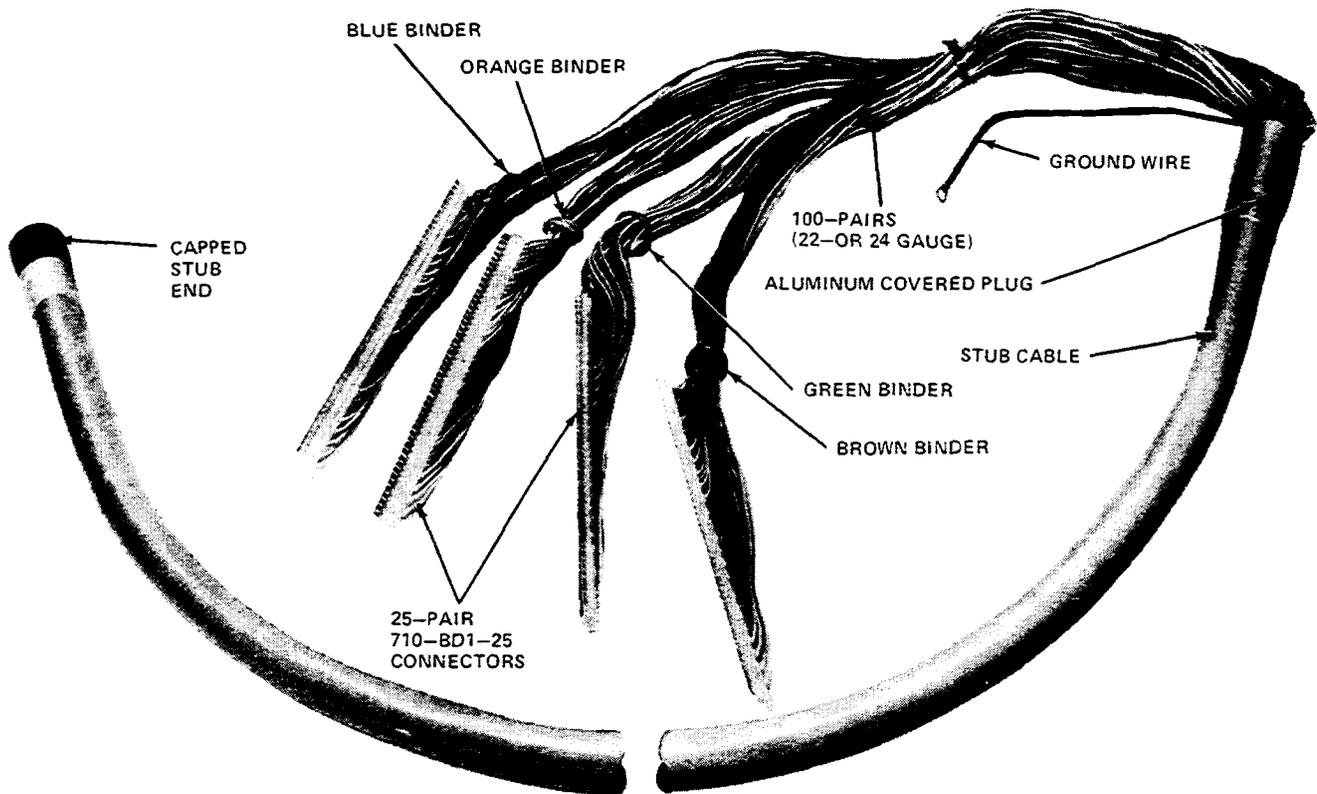

Figure 6. 11-Type Connectorized Stub Cable
4.01 For outside plant cable applications, stub cables (Figure 6) are used to interconnect the 407-type connector to the outside plant. The